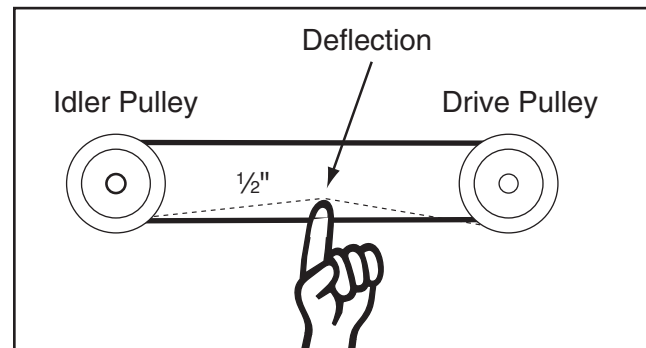

Figure 76. Checking sanding belt tension.
4. Push the belt in the center with your finger using moderate pressure. The deflection is correct when the belt deflects ½", as shown in **Figure 76**.